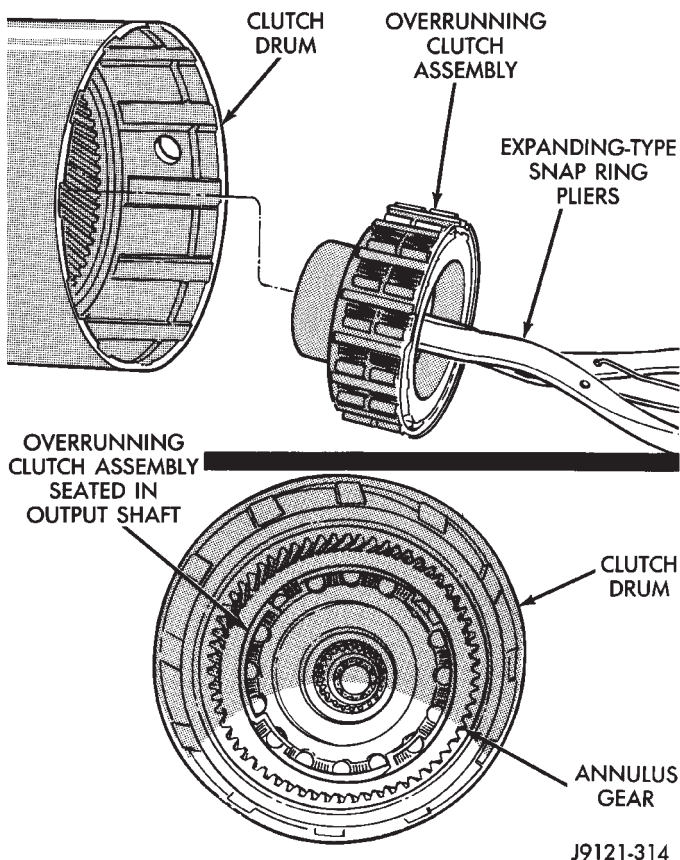

Fig. 216 Overrunning Clutch Installation
(10) Install overrunning clutch in output shaft (Fig. 216). Insert snap ring pliers in hub splines. Expand pliers to grip hub. Then install assembly with counterclockwise, twisting motion.